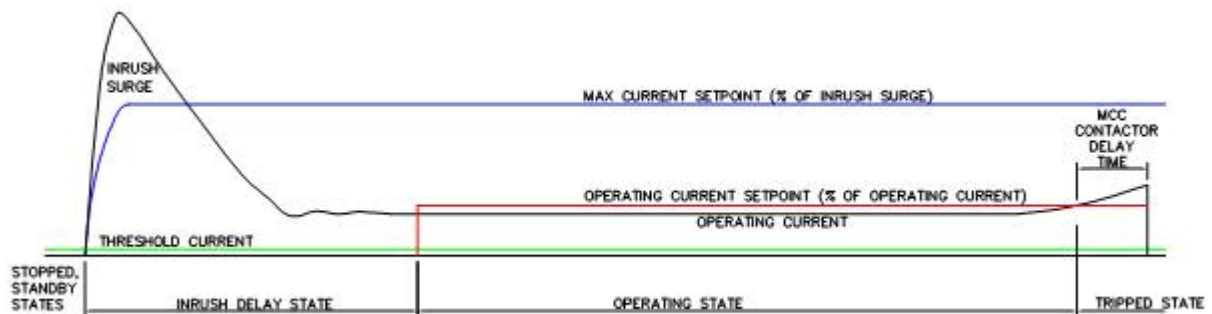

Figure 1: Typical Test Sequence
- 4.7. Figure 1 shows a hypothetical current trace for a test. The relay progresses through various states according to the sensed current.